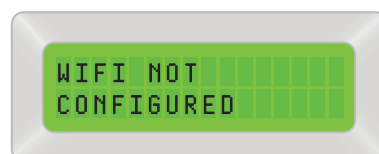

Figure 3-6: Wi-Fi setup not successful
- When the connection is successful, the network information is displayed as in Figure 3-8. Otherwise, the message in Figure 3-6 is displayed.